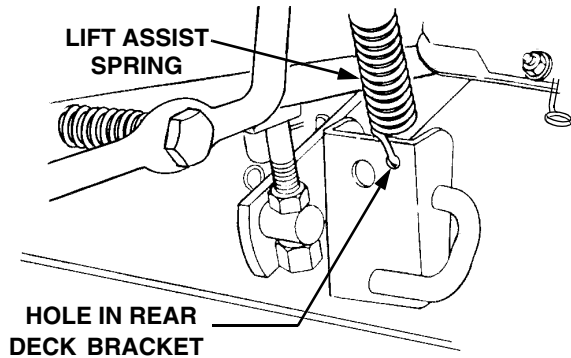

Figure 42
20. Install the lower hook of the lift assist spring into the hole in the right rear deck bracket (See Figure 42).